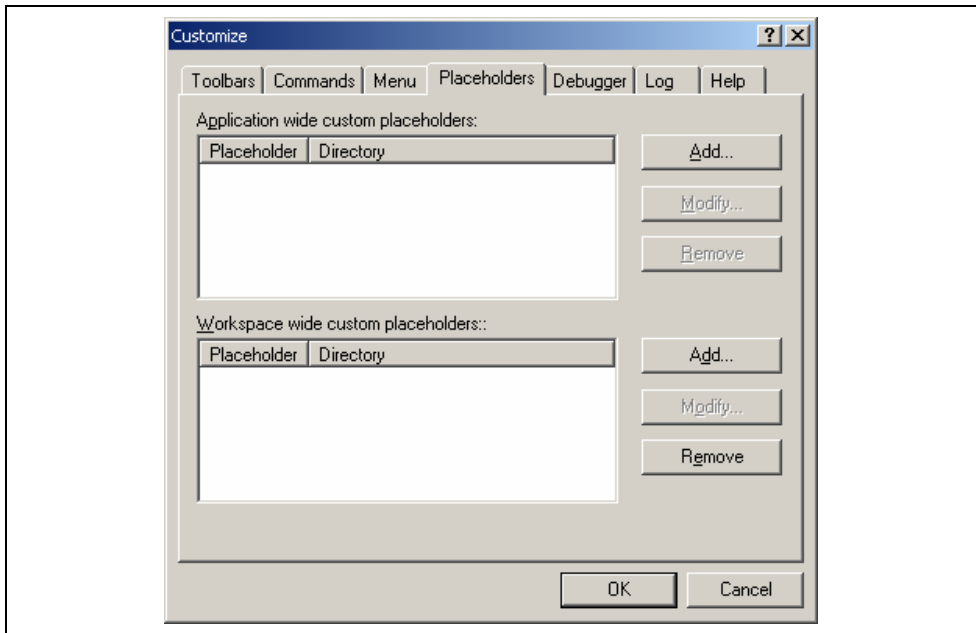

Figure 6.14: Customize Dialog Placeholder Tab
1. Select [**Tools->Customize...**]. The dialog shown in figure 6.1 will be displayed. Select the “Placeholders” tab (figure 6.14).